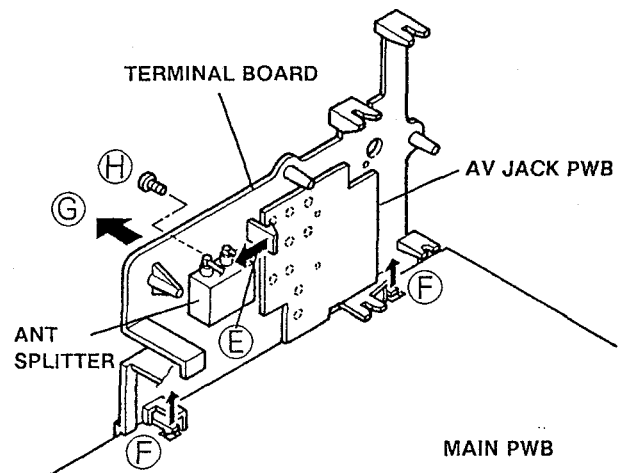
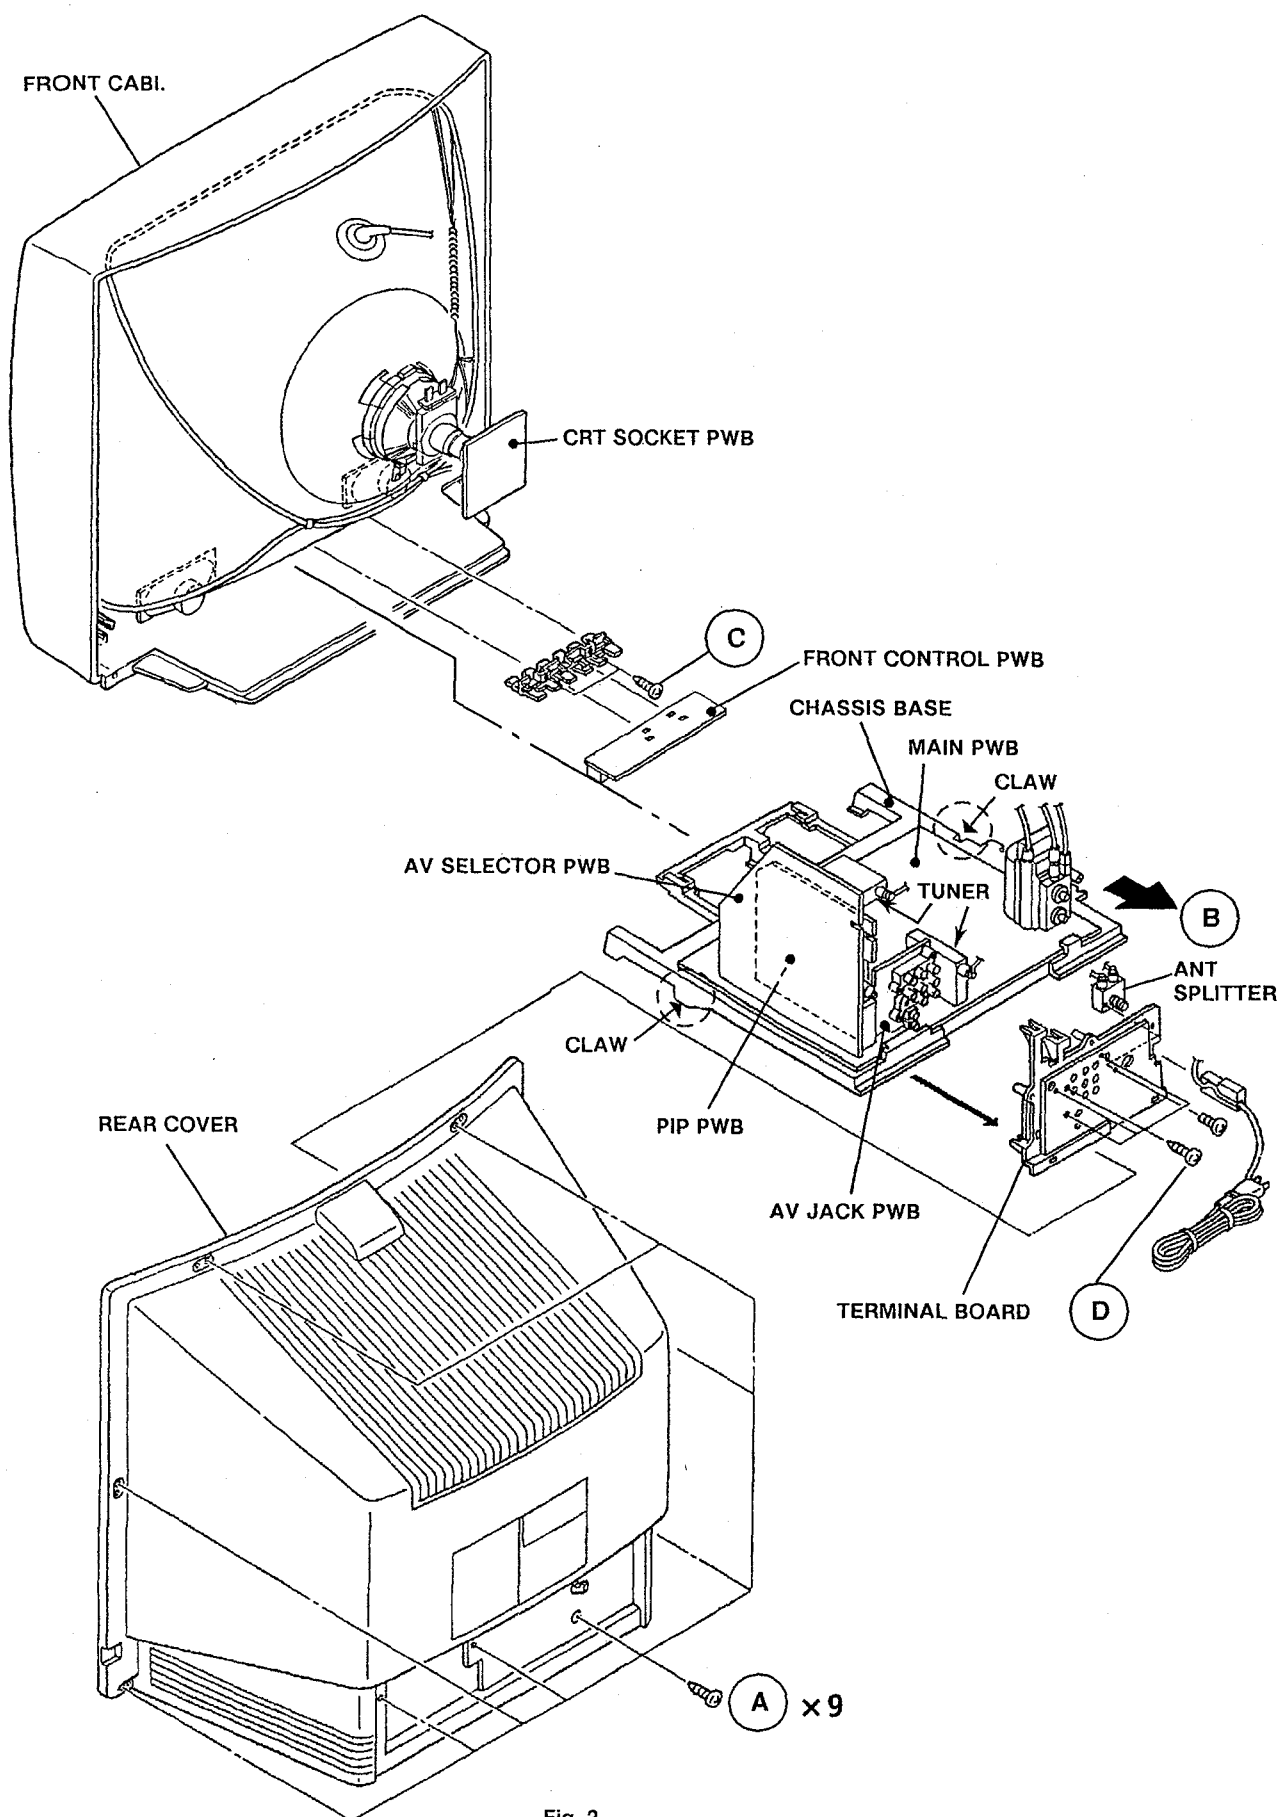

Fig.1
Fig. 2
2. Remove the nine screws marked (A) as shown in Fig. 2.
2. Draw the chassis backward along the rail in the arrow direction marked (B) as shown in the Fig. 2.
1. Remove the 2 screws marked (C) as shown in Fig. 2.
1. Remove the 4 screws marked (D) as shown in Fig. 2.
2. After removing the claw marked (E) from the AV JACK PWB in the direction of arrow mark as shown in Fig.1, remove the 2 claws marked (F) in the direction of arrow mark, then take off the TERMINAL BOARD in the direction of arrow marked (G).
1. Remove a screw marked (H) as shown Fig.1.
(4) System constant check and setting 1) Simultaneously press the DISPLAY key and VIDEO STATUS key of the remote control unit. 2) The SERVICE MENU screen of Fig. 1 is displayed. 3) While the SERVICE MENU is displayed, again simultaneously press the DISPLAY and VIDEO STATUS keys to display the Fig. 2 SYSTEM CONSTANT screen. 4) Refer to the SYSTEM CONSTANT table and check the setting items. Where these differ, select the setting item with the MENU UP / DOWN key and adjust the setting with the MENU LEFT / RIGHT keys. (The letters of the selected item are displayed in yellow.) 5) After adjusting, release the MENU LEFT / RIGHT key to store the setting value. 6) Press the EXIT key twice to return the normal screen.	 <p>Fig. 1</p>
(6) User settings Check the user setting items According to Table 2. Where these do not agree, refer to the OPERATING INSTRUCTIONS (USER'S GUIDE) and set the items as described.	 <p>Fig. 2</p>
(7) SERVICE MENU setting Verify what to set in the SERVICE MENU, and set whatever is necessary. (Fig. 1) refer to the SERVICE ADJUSTMENT for setting.